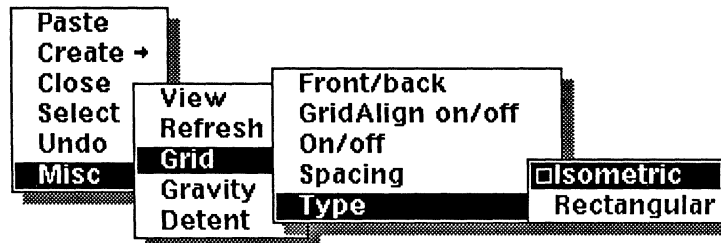

Figure 24-26. Grid Type command
- ✓ Execute the **Grid->Type->Isometric** command on the Nothing Selected popup menu (Figure 24-26).